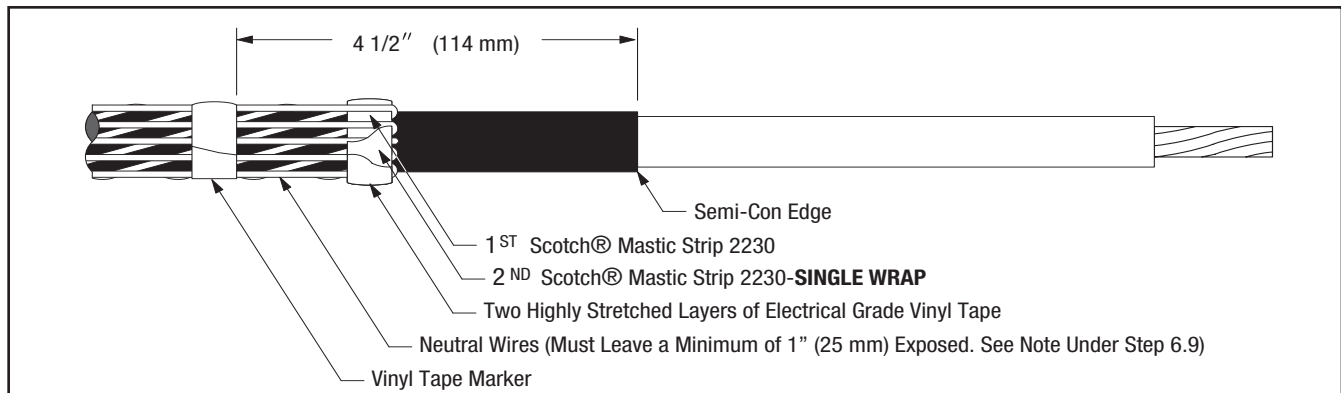

Figure 8
6.7 Bend neutral wires back over applied sealing mastic and secure to cable **4 1/2" (114 mm) from cable semi-con edge using vinyl tape (see NOTE and Figure 8).**
6.8 Select second Scotch® Mastic Strip 2230 from kit and remove white release liners. Apply a second **SINGLE WRAP** of mastic over the neutral wires and previously applied mastic (Figure 8). Cut off excess.
6.9 Compress neutral wires into mastic by over-wrapping seal strips with two highly stretched layers of electrical grade vinyl tape (Figure 8). **Be sure to cover all exposed mastic.**